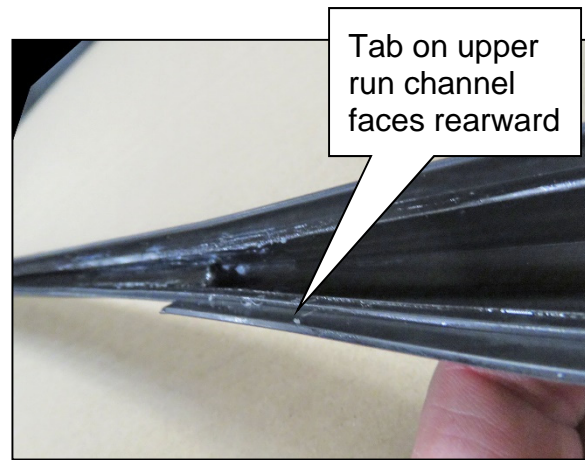

Figure 20
- a. Identify the tab on the upper run channel. The side with the tab will face toward the rear of the vehicle (Figure 20).